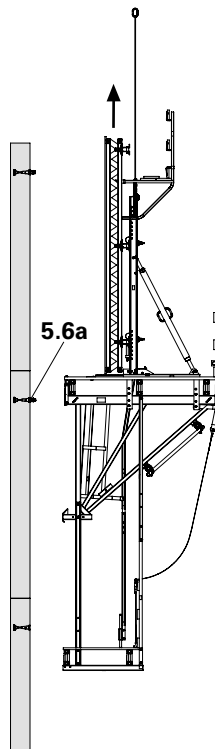

Fig. B4.03
- (Fig. B4.03 – B4.05 + B4.06).